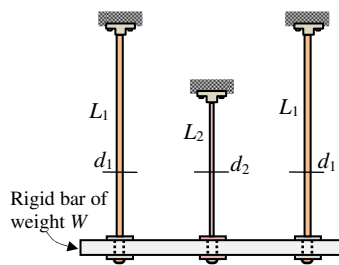

Figure 1
1. A horizontal rigid bar of weight  $W = 10 \text{ kN}$  is supported by three slender circular rods that are equally spaced as shown in Fig. 1. The outer rods are made of brass ( $E_1 = 100 \text{ GPa}$ ) with diameter  $d_1 = 10 \text{ mm}$  and length  $L_1 = 800 \text{ mm}$ . The inner rod is steel ( $E_2 = 200 \text{ GPa}$ ) with diameter  $d_2 = 6 \text{ mm}$  and length  $L_2 = 500 \text{ mm}$ . Ignore the weight of the rods and calculate the stresses in each rod and the vertical displacement of the rigid bar. [5]